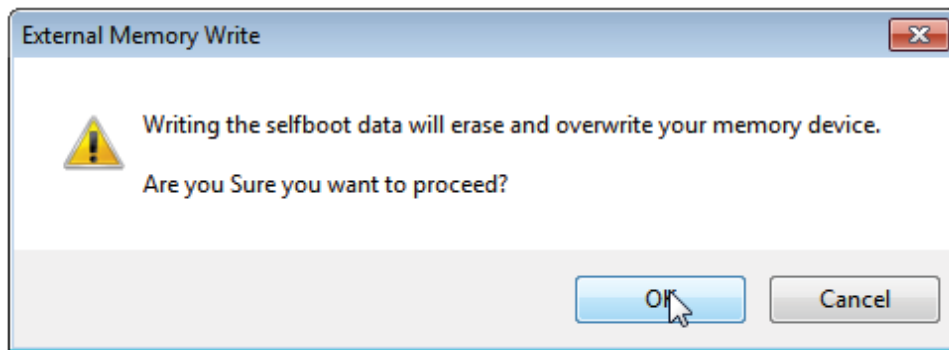

Figure 75. External Memory Erase and Overwrite Warning Window
- 8. A warning dialog box appears to remind the user that executing an external memory write erases and overwrites any data currently stored on the EEPROM (see Figure 75). Click **OK** to proceed.